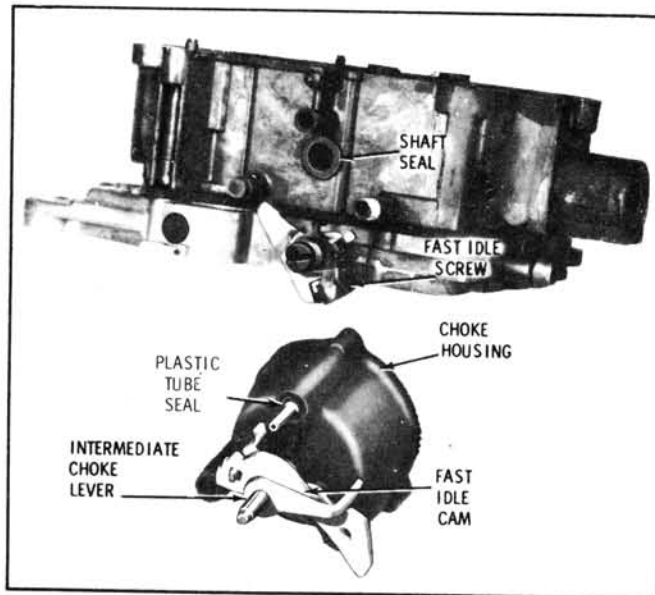

FIGURE 43
CHOKE HOUSING SEALING (Fig. 43)
ASSEMBLY OF CHOKE TO BOWL-LATE 4MC – (Figure 43)
2. Install fast idle cam on the intermediate choke shaft (steps on fast idle cam face downward) (Figure 43).